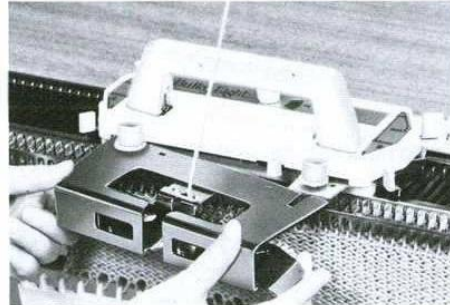

Fig.65
- (a) Unscrew the two plastic nuts, and remove the fabric presser arm. (Fig.65)